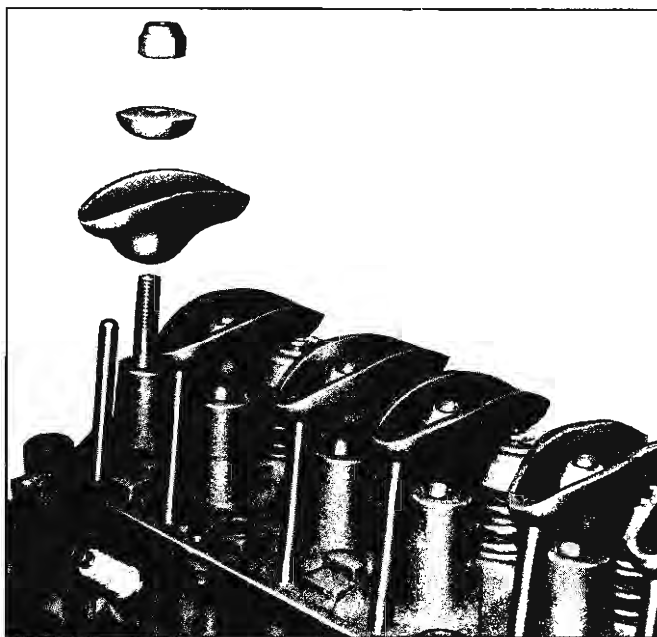

Fig. 7L—Rocker Arm Installation
7. Install valve rocker arms, rocker arm balls and nuts and tighten rocker arm nuts until all push rod end play is taken up (fig. 7L).